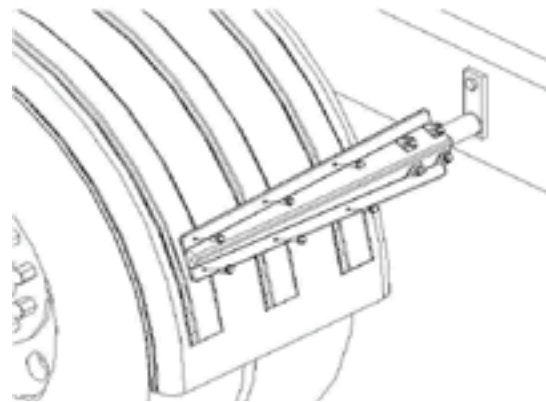

Figure 7
- A. Drill six 5/16" holes thru fender using the holes in bracket PB501026A as a guide. Install the 5/16" x 1" bolts thru the bracket and into the fender. Use six 5/16" body washers and 5/16" nuts provided with kit on the inside of fender. Do not over tighten bolts as it may crack the bracket. Hand tightening of bolts is suggested. Make sure the fenders are square and aligned. Twists or bows in the fender will fatigue the material over time. See Figure 7.